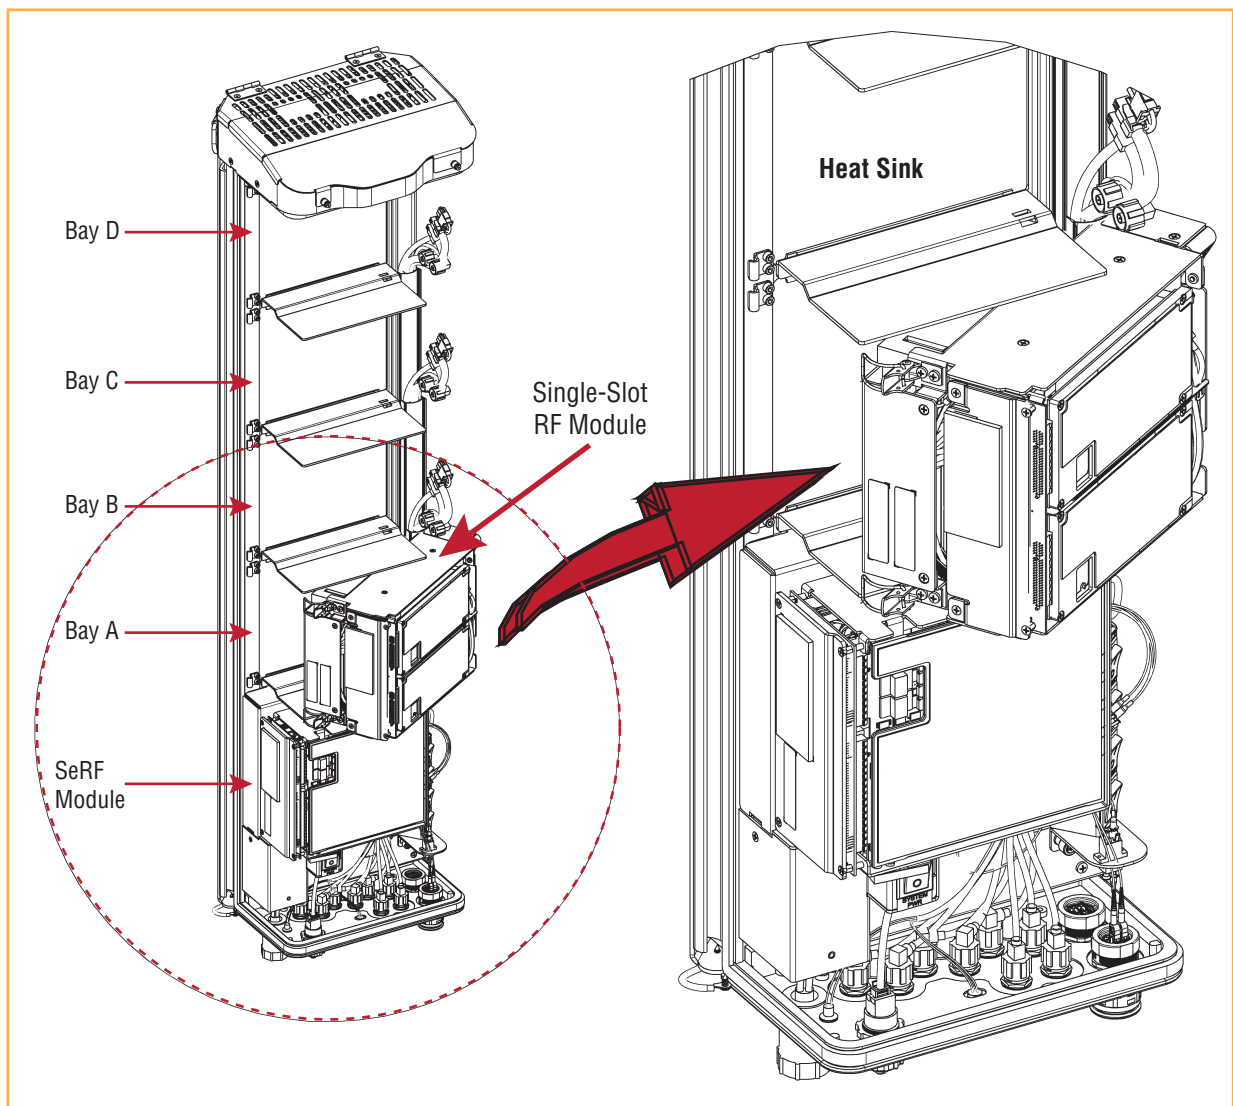

Figure 11. Installing a Single-Bay RF Module
- Single-Bay RF Module: Figure 11 on page 22